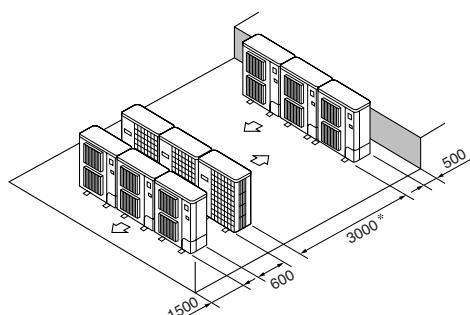

Fig. 2-13
- ⑥ Flere parallele enheder arrangement (Fig. 2-13)